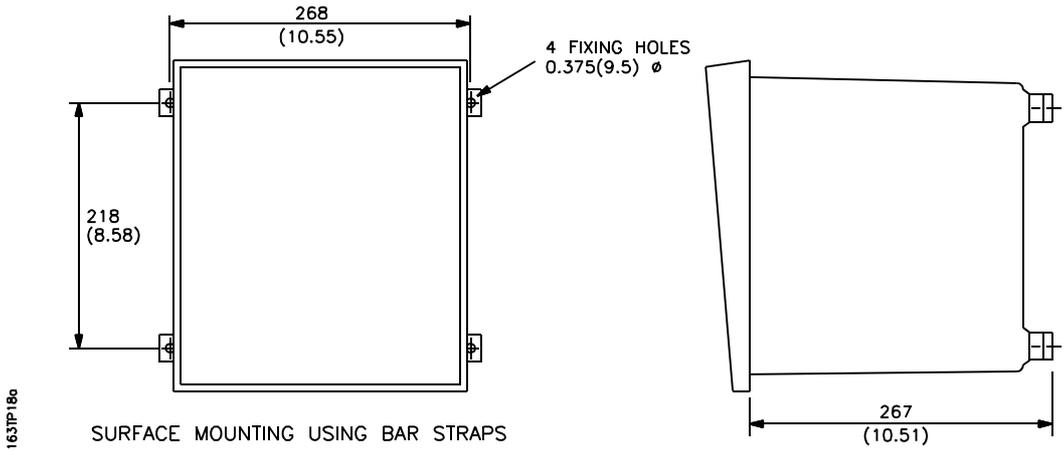

Figure 2.2 Surface Mounting Control Unit
The Transducer and Interface units are supplied with straps for surface mounting (Figure 2.2).
1. Surface mounting using kit 01100 401 (Figure 2.2)